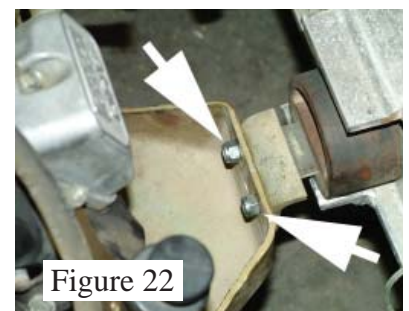

Figure 22
21. Remove the two 1/2" bolts holding the snubber to the engine tray and set the snubber aside. (See Figure 22).